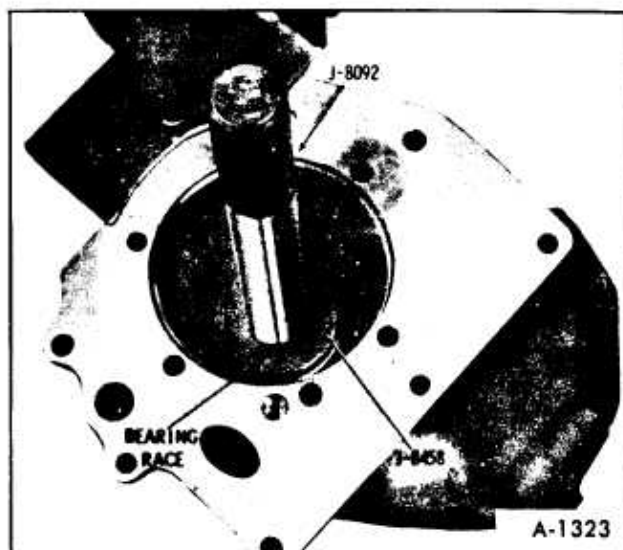

Figure 35—Installing Pinion Front Bearing Outer Race
1. Install pinion front outer race as shown in Figure 35. Drive race until it bottoms.